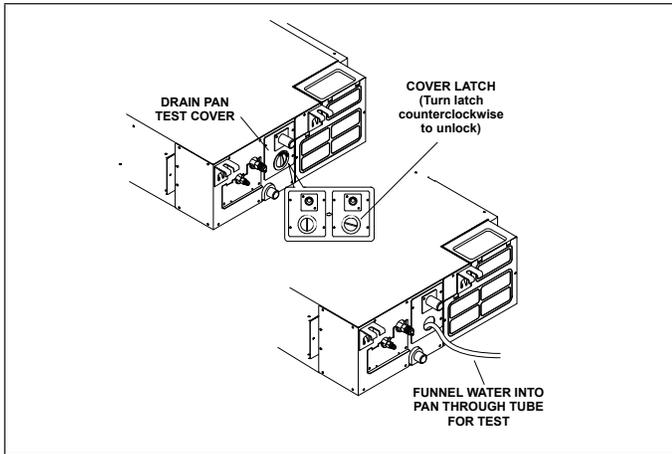

Figure 21. Condensate Drain Test
- If the unit is being installed in an application that includes a sheet rock (plasterboard) ceiling, it is required that an access panel be installed in a suitable location. This will also allow access for future maintenance. Access is required during the start up process to test the condensate disposal system. See “Figure 21. Condensate Drain Test” on page 15.